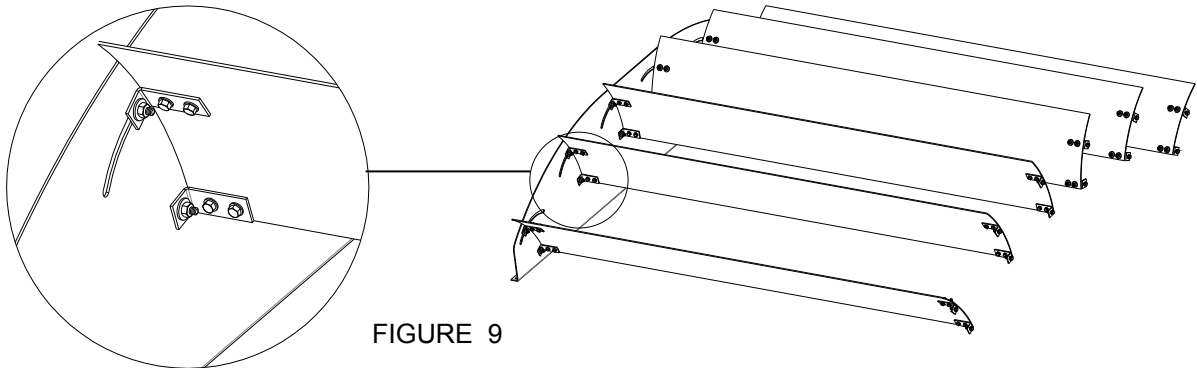

FIGURE 9
4. On a level surface, attach each turning vane to one vane support using Wiz Lock bolts, washers, and nuts provided, as shown in figure 9. The flange of the vane support should face outward, away from the turning vane. Arrange the turning vanes in the proper directions to achieve desired airflow control at the end of the assembly process. Do not tighten the bolts completely in order to allow position adjustment of the turning vanes at the completion of the assembly process.